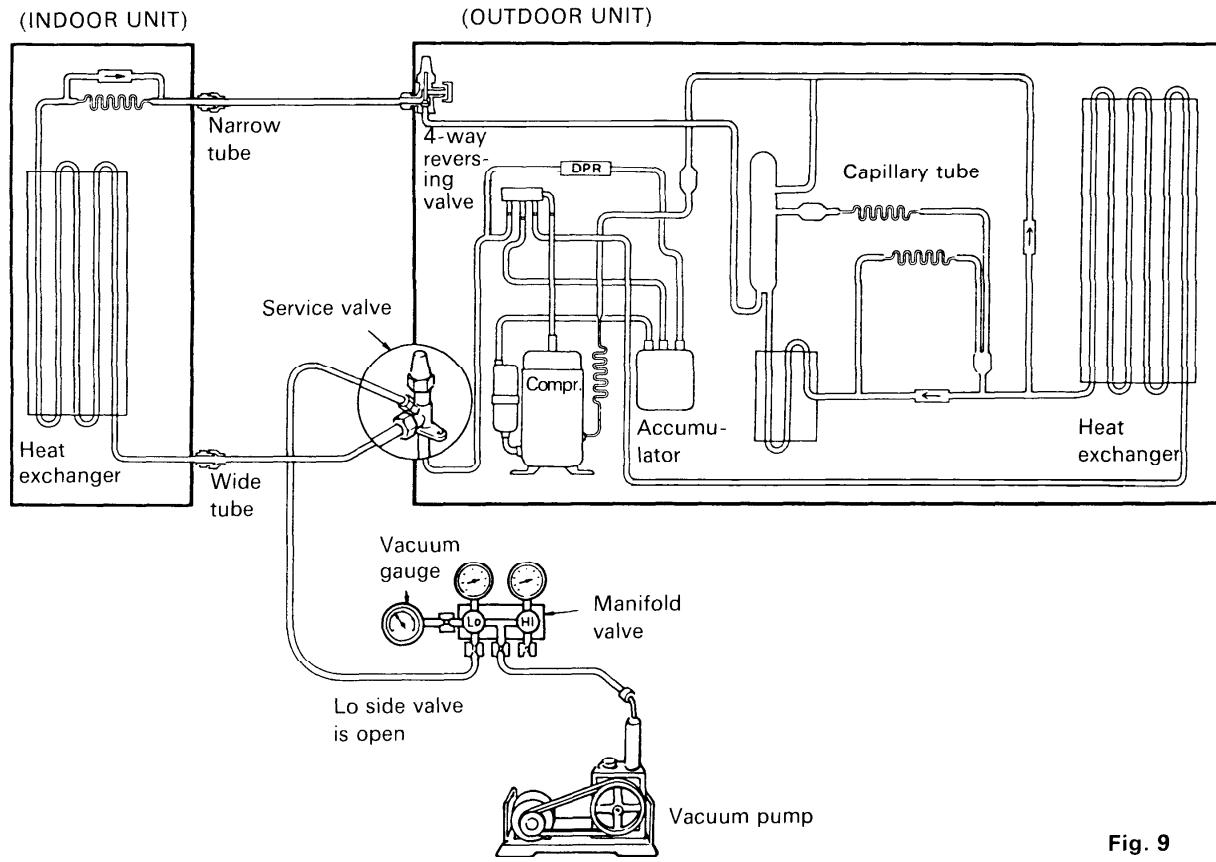

Fig. 9
- b) If no gas leakage is confirmed, connect both vacuum pump and vacuum gauge to service valve through 1/4" port with a flare nut. See Fig. 9